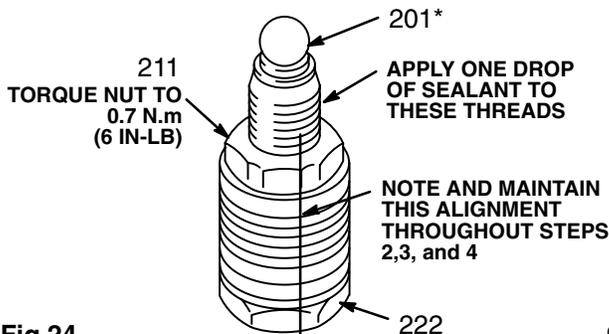

Fig 24 0082
- 6 Clamp the flats of the piston rod (224) in a vise. Unscrew the retaining nut (21-1). Unscrew the piston valve (222) from the rod. Remove all parts from the piston. See Fig 24.
- 2 Tighten the packing retaining nut (211) onto the piston valve (222) and torque to 0.7 N.m (6 in-lb). See Fig 24.
**NOTE:** NOTE THE ALIGNMENT of the piston (222) to the nut (211). Maintain this alignment throughout Steps 2, 3 and 4.
- 3 Apply 1 drop only of sealant, supplied with the repair kit, to the piston valve threads. Place the small ball (201\*) on the valve. See Fig 24. Hand tighten the valve into the rod (224) just until the nut contacts the rod. Place the flats of the displacement rod in a vise.